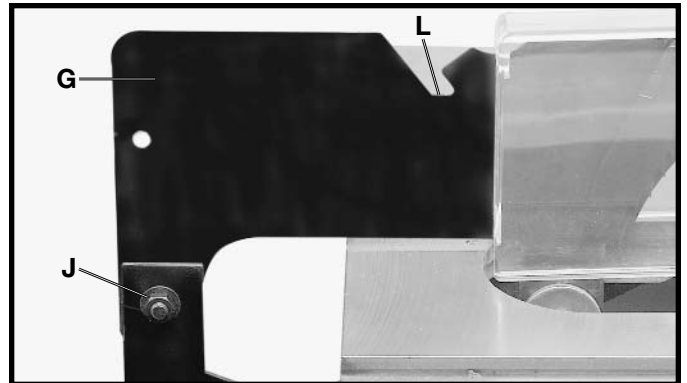
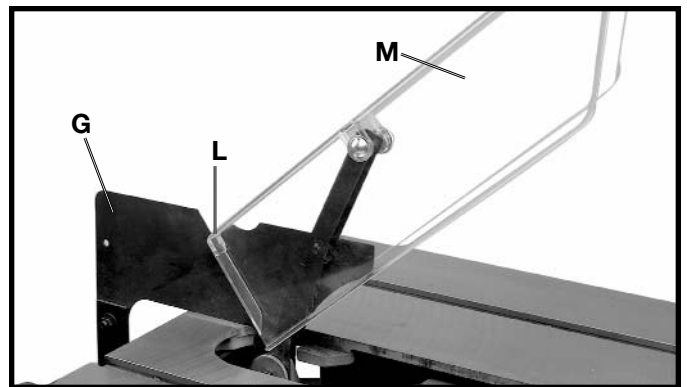

Fig. 34
Fig. 35
8. Fasten the rear of the blade guard and splitter bracket assembly (G) Fig. 34, to the rear splitter mounting bracket. Align the hole in the blade guard and splitter bracket with the hole in the rear splitter mounting bracket. Insert a 5/16-18x5/8" carriage head screw through the hole (J) in the blade guard and splitter assembly and through the hole in the rear splitter mounting bracket, place a 5/16" flat washer onto the carriage head screw, thread a 5/16-18 hex nut onto the carriage head screw and tighten securely. **IMPORTANT:** The splitter (G) Fig. 34, has a notch (L) cut in the top edge as shown. This feature will enable the blade guard to stay in the raised position to make blade changing easier. Raise the front of blade guard (M) Fig. 35, until the rear edge of the blade guard slips into notch (L) of splitter (G); the blade guard will stay in this position.